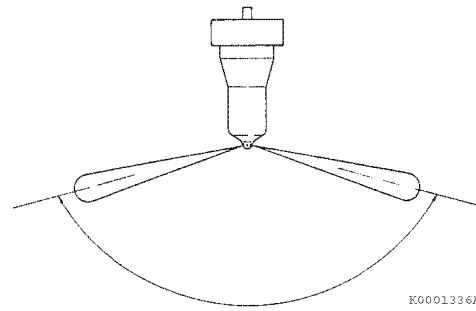
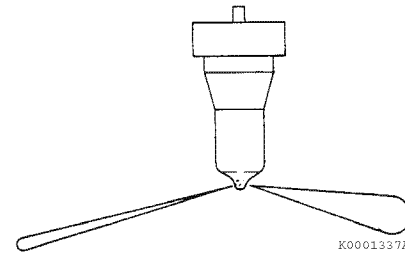

Figure 7-47
Figure 7-48
6. Pump the operating lever more rapidly to repeatedly “pop” the injector and observe the spray pattern. The pattern should be a very fine uniform spray (**Figure 7-47**). If a dripping or an uneven pattern is seen (**Figure 7-48**), service or replace the injector.